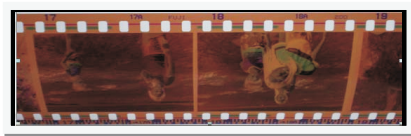
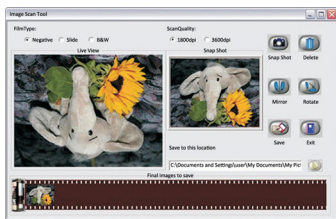

Figure 2
Figure 3
- ✧ If the image is upside down [see fig.2], the image can be corrected by “Rotate” function in Image Scan Tool after capture [see fig.3].